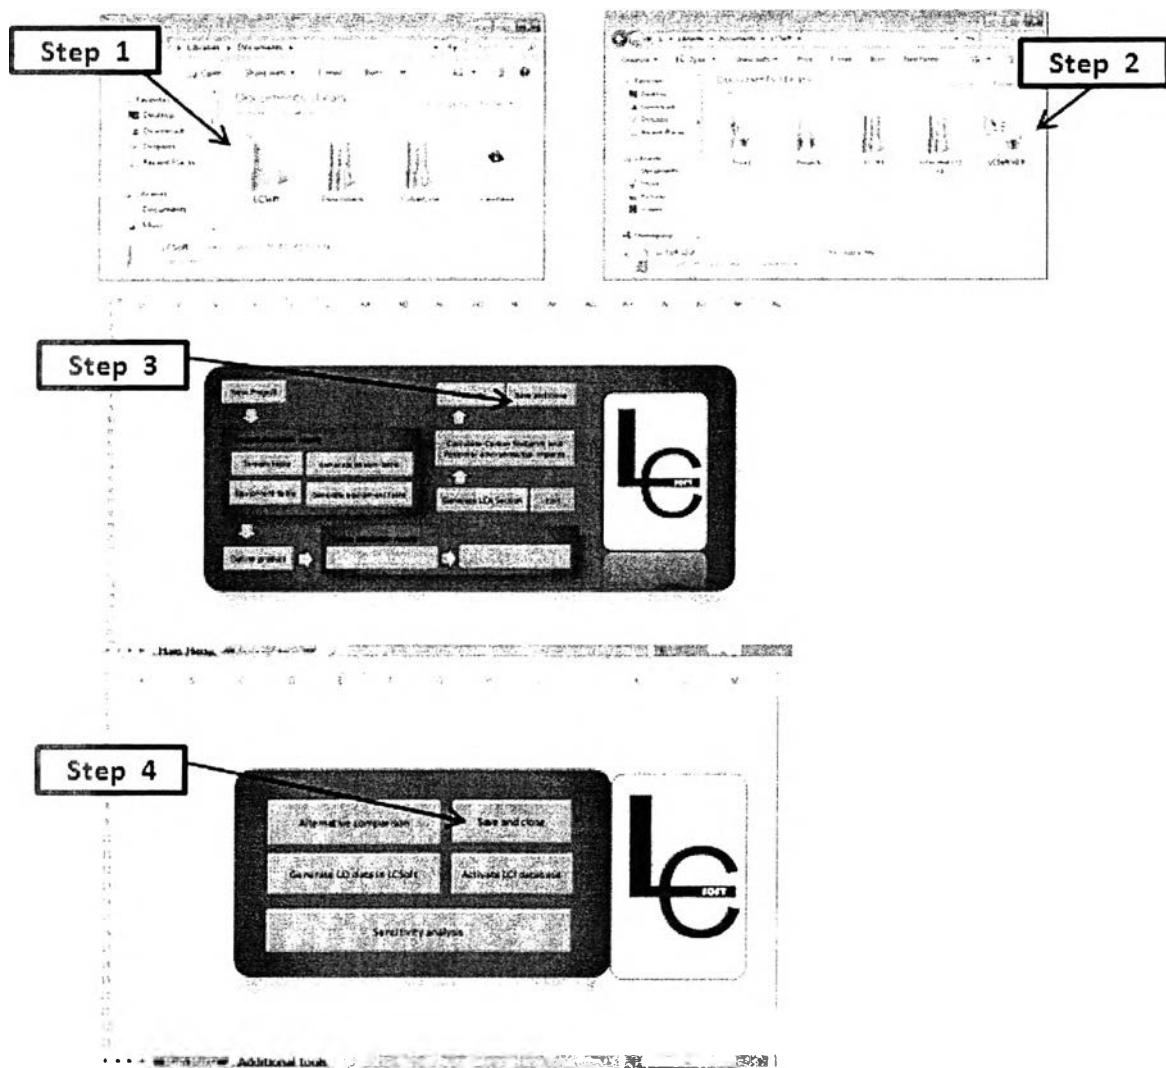

Figure A.4 Steps to open and close LCSoft
Step 1: Open “LCSoft” folder (Figure A.4). Step 2: Open “LCSoft v 2.0” *Excel* file, “Main menu” page will appear. LCSoft will be ready to conduct LCA. Step 3: After conducting LCA, to close LCSoft click “Save and close” button. LCSoft will be automatically saved in “Projects” folder and closed. Step 4: After using additional tool, to close LCSoft click “Save and close” button. LCSoft will be automatically saved in “Projects” folder and closed.